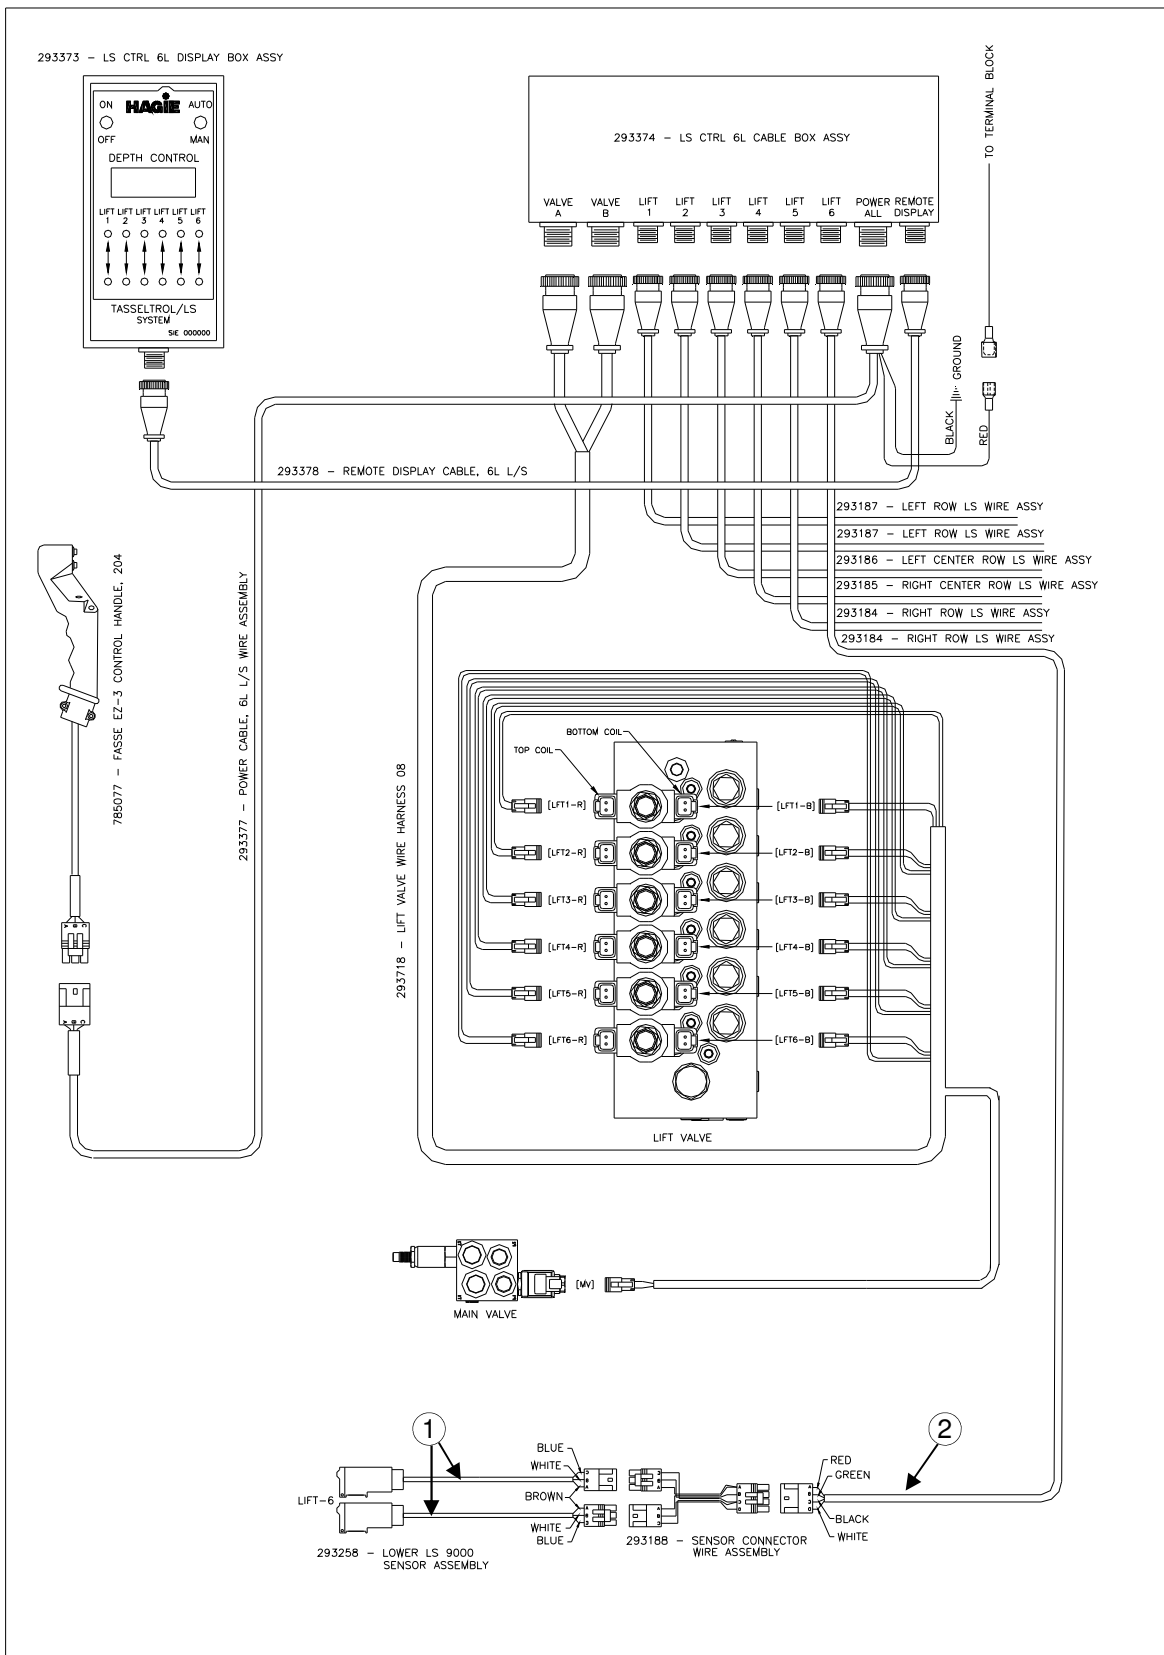

FIG 151.1
No lights at either photo sensor	Faulty connector cable (See page 151, fig. 151-1, item 2)  Faulty RED and/or BLACK wire in connector cable (See page 151, fig. 151-1, item 1)
Lights at lower photo sensor	<p>Faulty GREEN wire in connector cable (See page 151 fig. 151-1, item 2)</p> <p>Photo sensor not in line with reflector , call Hagie Manufacturing Customer Support.</p> <p>Faulty BLUE wire in sensor assembly (See page 151, fig. 151-1, item 1)</p>
No lights at lower photo sensor	<p>Faulty RED and/or BLACK wire in connector cable (See page 151, fig. 151-1, item 2)</p>
Lights at upper photo sensor	Faulty WHITE wire in sensor assembly (See page 151, fig. 151-1, item 1)  Faulty BLUE wire in sensor assembly (See page 151, fig. 151-1, item 1)
No lights at upper photo sensor	Faulty RED and/or BLACK wire in connector cable (See page 151, fig. 151-1, item 2)